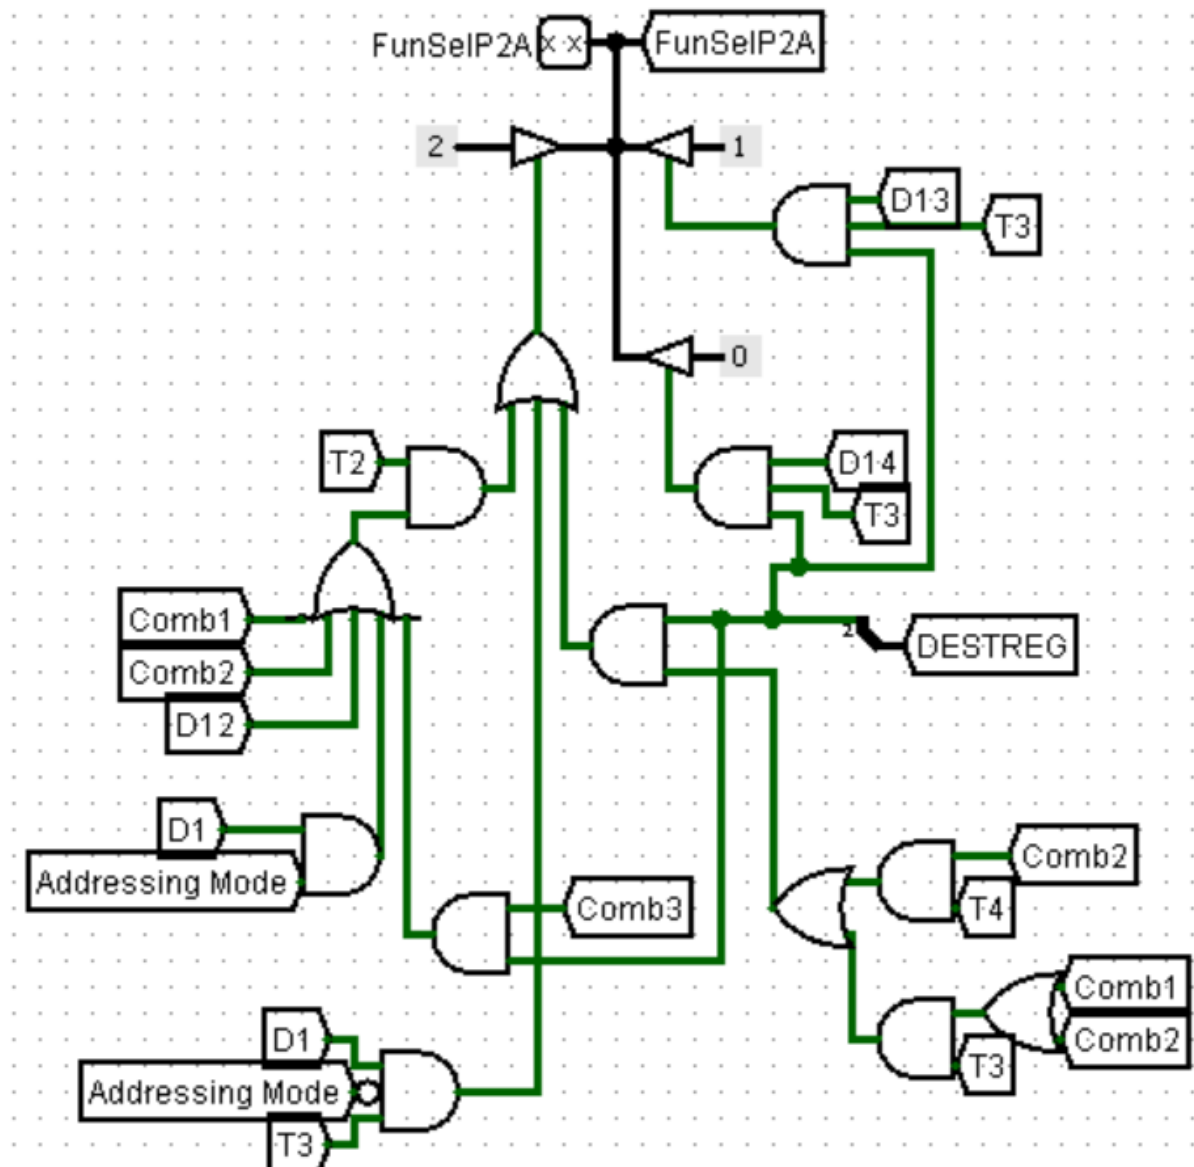
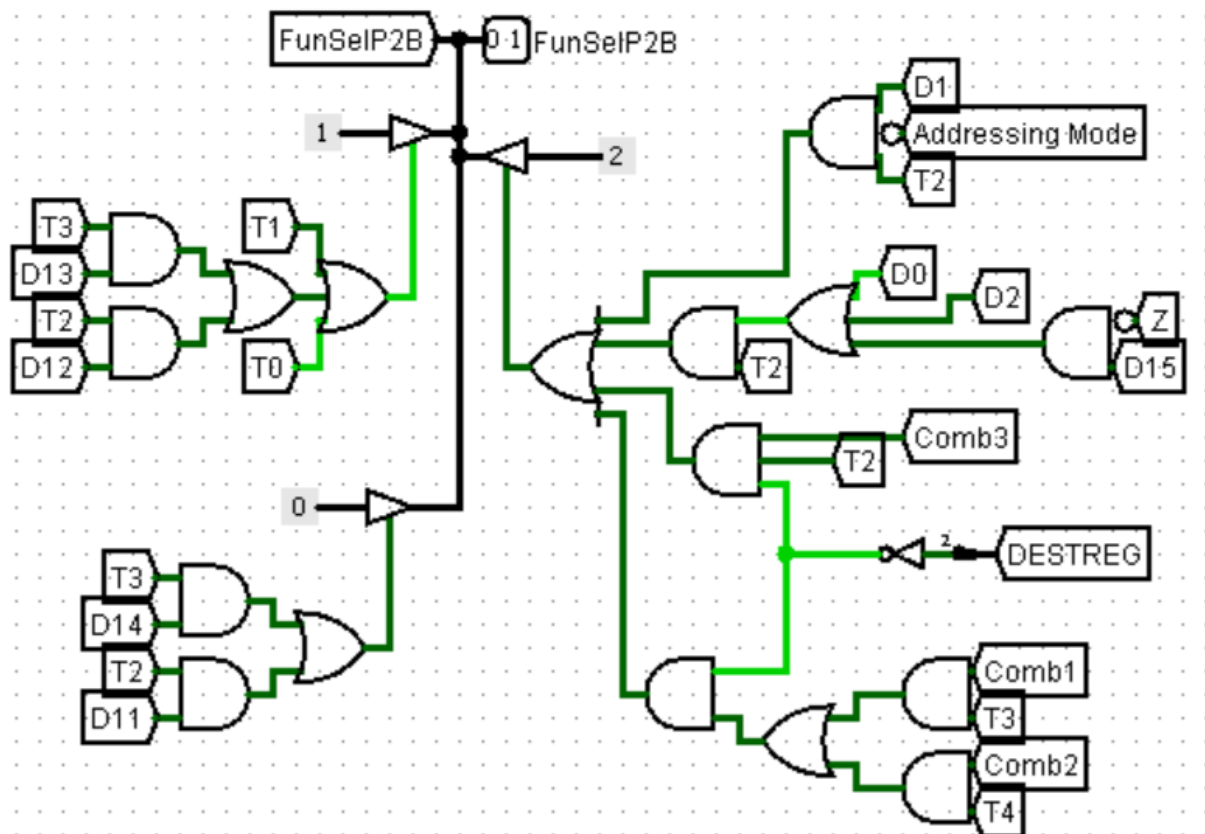

Figure 17: Part 2A FunSel in Control Unit
Figure 22: Part 2B FunSel in Control Unit
(See Figure 22 and Figure 17 for visual explanation) And we're done.
- Set FunSel of ARF to 10 (See Figure 22).